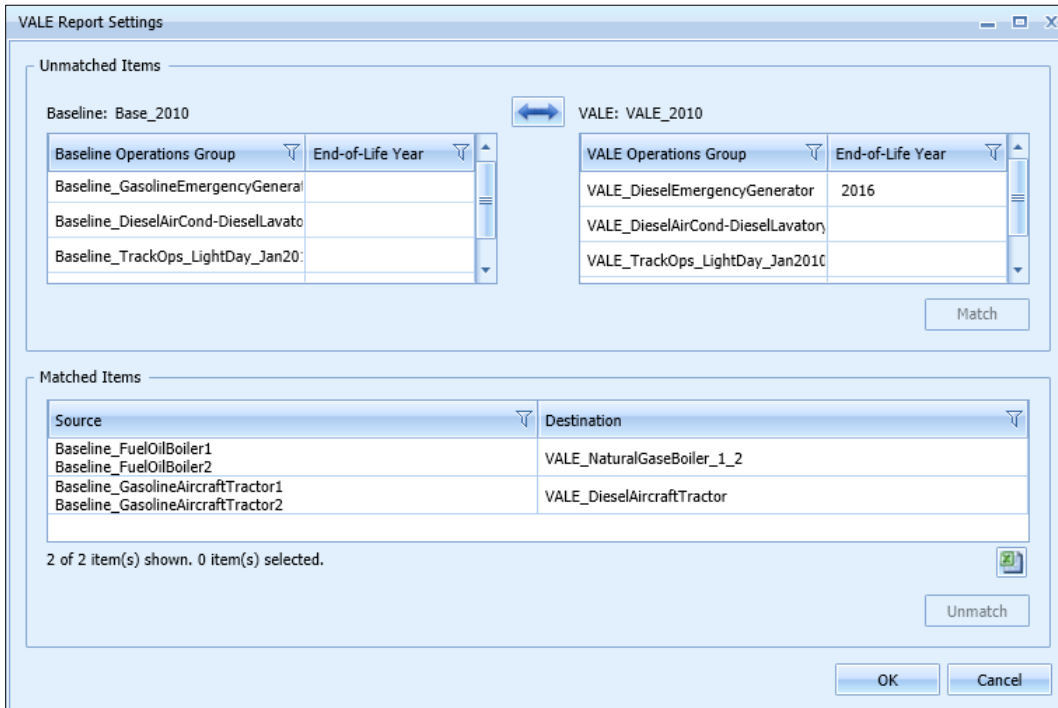

Figure 5-43 Sample VALE Report Settings Dialog
2. From the *Reports* ribbon group, click *VALE Report* to open the *VALE Report Settings* dialog (Figure 5-43).